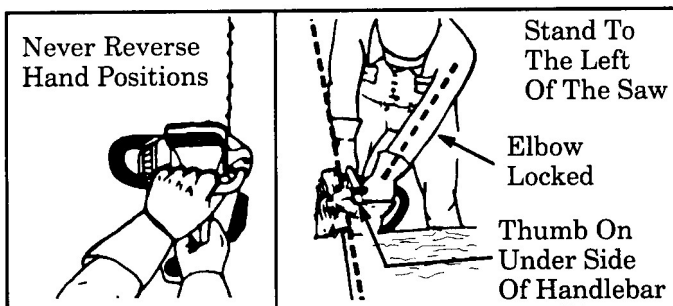

Figure 3
1. **Keep a good, firm grip on the saw with both hands when the engine is running and don't let go.** Figure 3. A firm grip can neutralize kickback and help you maintain control of the saw. Keep the fingers of your left hand encircling and you left thumb under the front handlebar. Keep your right hand completely around the rear handle whether you are right handed or left handed. Keep your left arm straight with the elbow locked.
2. **Position your left hand on the front handlebar so it is in a straight line with your right hand on the rear handle when making bucking cuts.** Figure 3. Never reverse right and left hand positions for any type of cutting.
4. **Stand slightly to the left side of the saw to keep your body and head from being in a direct line with the cutting chain.** Figure 3.